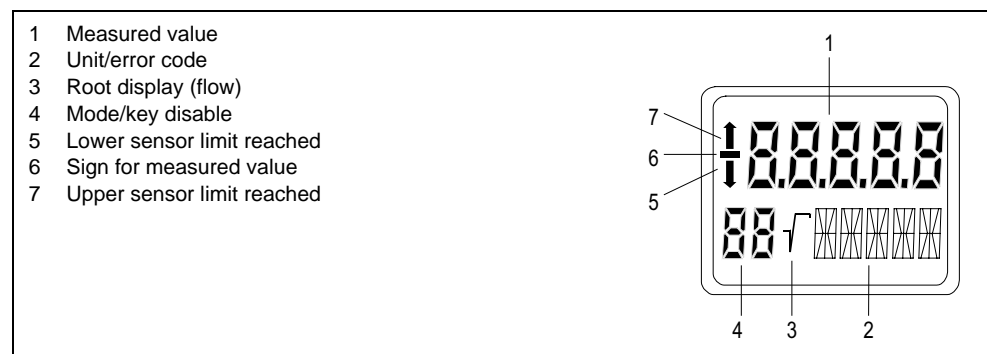

Figure 16 Structure of the digital display
The coding of the status byte is listed on the following pages. In addition, possible causes of an error are given, along with measures to remove it. The digital codes shown in the following tables will appear in the unit/error code (see (2) Figure 16, page 31) section of the digital display when the variable being displayed has a status condition active.
The digital display is used to locally display the measured value (see (1) Figure 16) and associated information, e.g. limits being reached.
The measured value display consists of five 7-segment fields with a sign (see (6) Figure 16) and overflow indicator (see (5) and (7) Figure 16). The measured value is displayed in a unit which can be selected. Additional symbols give you further information:
See Figure 16, page 31.